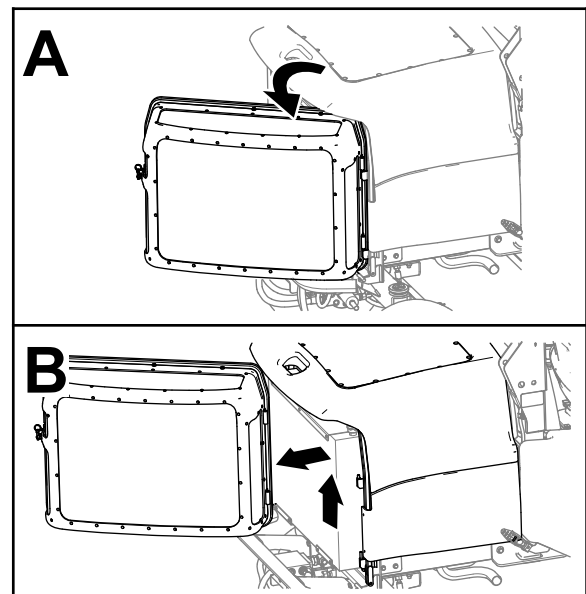

Figure 66
3. Unlatch the engine screen, open it, and lift it from the machine (Figure 66).